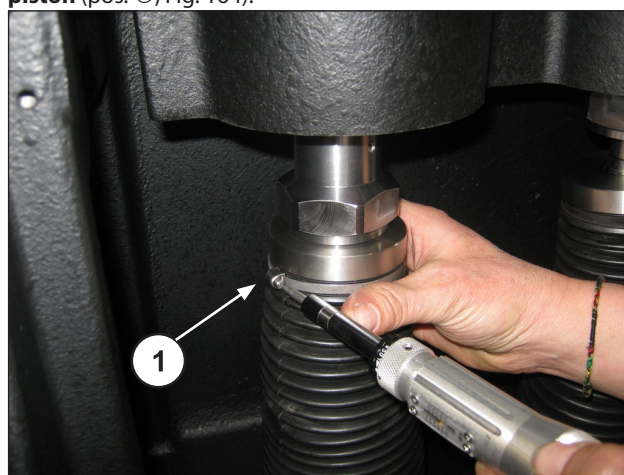

Fig. 164
The bellows must be refitted to the splashguard and the clip securing the bellow to the splashguard must be tightened only after having mounted the manifold **and secured the piston** (pos. ①, Fig. 164).